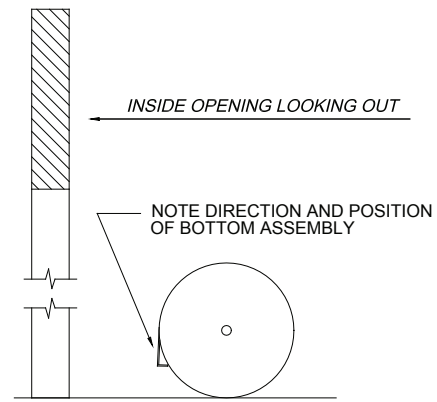

Figure 4.
4.1 Position the door in the opening as shown in Figure 4. Be sure to place the door on protective material to prevent damage to the curtain.